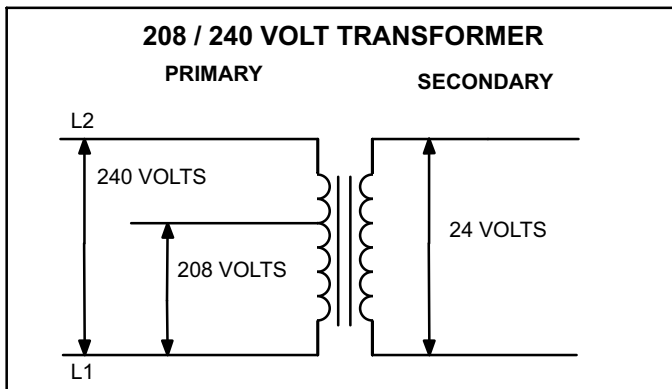

FIGURE 3
All 13CHA(X) series units use line voltage to 24VAC transformer mounted in the control box. The transformer supplies power to control circuits in the unit. Transformers use two primary voltage taps as shown in figure 3.